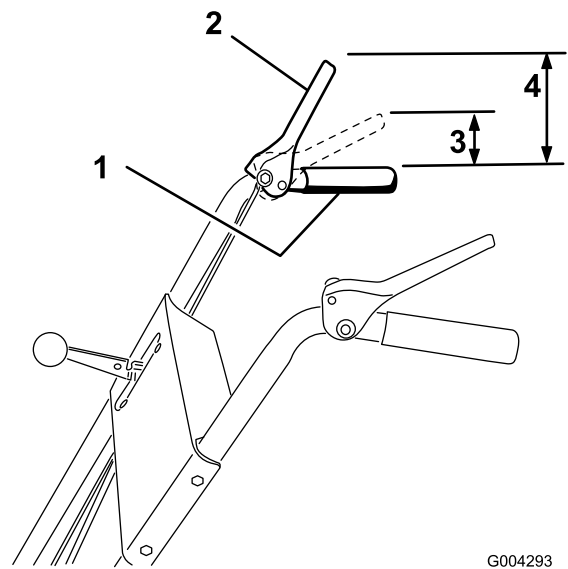

Figure 9
3. Check the distance between the top of the handgrip and the bottom of the auger/impeller drive control lever (Figure 9).
Note: The amount of force needed to compress the lever increases noticeably when you remove the slack from the auger/impeller drive belt (approximately 1/2 of the lever movement). The adjustment is correct when the force begins to increase and the distance between the top of the handgrip and the bottom of the auger/impeller drive control lever is 1 to 2 inches (2.5 to 5 cm) as shown in Figure 9.